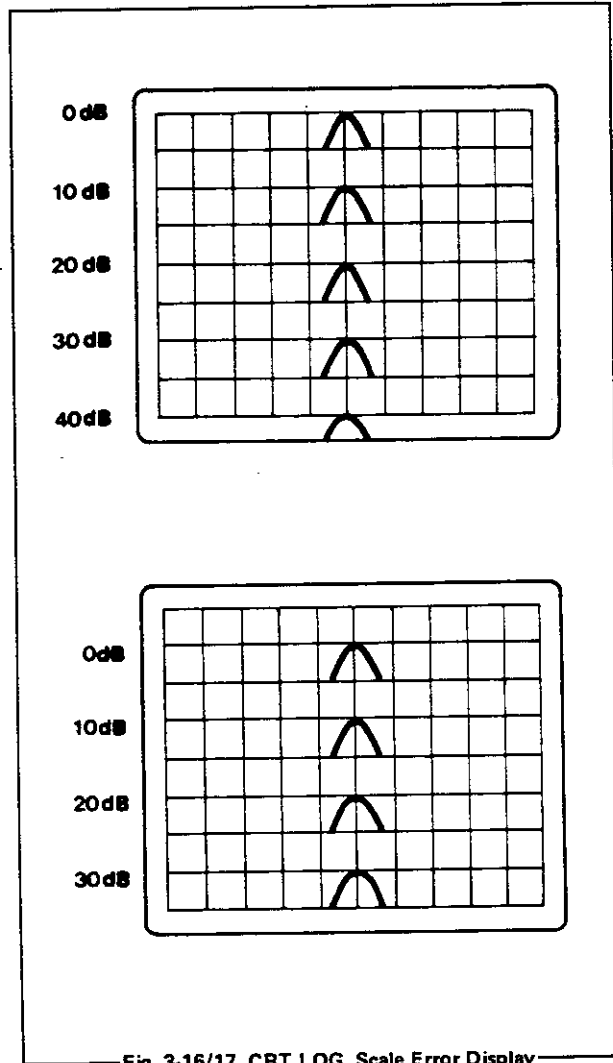

Fig. 3-16/17 CRT LOG. Scale Error Display
- (5) Check that variation of the CRT display is in  $10\text{dB} \pm 1\text{dB}$  as the external Attenuator is changed by every 10dB;  $40\text{dB} \pm 1.5\text{dB}$  for the Attenuator change of 40dB; and  $80\text{dB} \pm 2\text{dB}$  for 80dB.
- (6) Return the external Attenuator to 0dB and **IF GAIN** to 10dB respectively; and set **10dB/DIV.**, **5dB/DIV.**, **LINEAR** to **5dB/DIV.**
- (7) Adjust **V. REF.** located on the left side of the instrument so that signal peak corresponds to the horizontal top line on the CRT.
- (8) Check that the level error of the signal peak is within 0.2 divisions when the external Attenuator is switched from 0dB to 40dB in 10dB sequence. [Fig. 3-16].